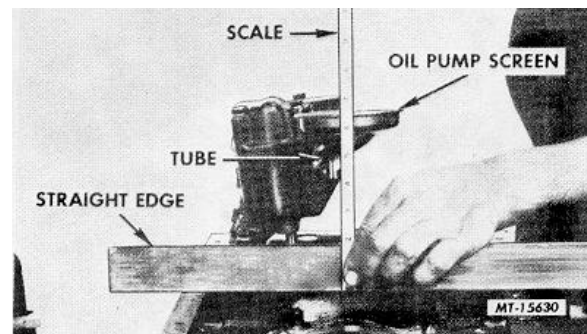

Fig. 119. Check for Proper Location of Oil Pump Screen
- d. Establish correct oil pump screen position by placing a straightedge across the oil pan rails of crankcase. Using a scale, measure the distance from bottom of straightedge to top of pump screen on both sides (Fig. 119). Pump screen should be parallel with and at the specified distance above the pan rails.